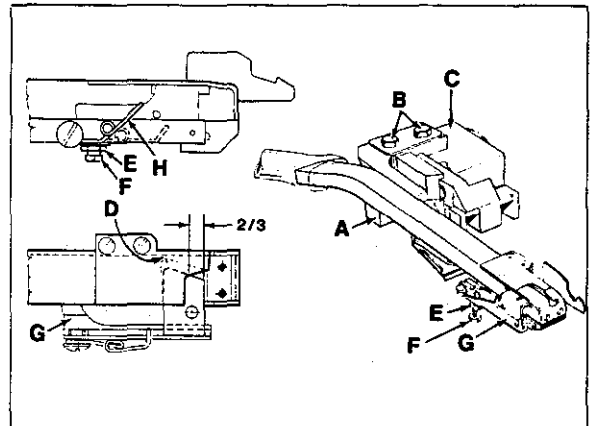

Fig. 26
The knife cross over is set at the factory, however adjustment will be necessary after replacing or repairing knives. With sewing motor switch in "OFF" position and air line connected to air motor for "AIR-KLIPP" chain cutter (see setting pressure valve) depress treadle until air motor begins to operate, in and out. With forefinger, carefully press against the moving drive link (A, Fig. 26) until air motor stops.
With treadle still depressed, check the knife cross over. The cross over of the lower knife to the upper knife is positioned correctly, when the lower knife is 2/3 from the front of the upper knife as shown in Fig. 26. If adjustment is required, loosen screws (B), reposition air motor (C) slightly to the left if lower knife is positioned to far left or slightly to the right if lower knife is positioned too far right. Retighten screws (B) and recheck cross over.